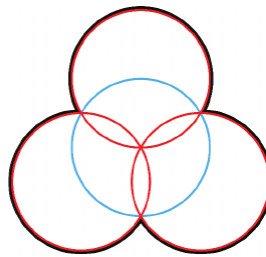

FIGURE 13-12: Circles comprising a trefoil
To generate a trefoil yourself (Figure 13-12):
- If you remove the interior intersections you will get a trefoil (marked in black in Figure 13-12).